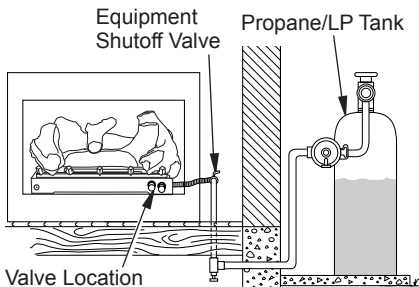
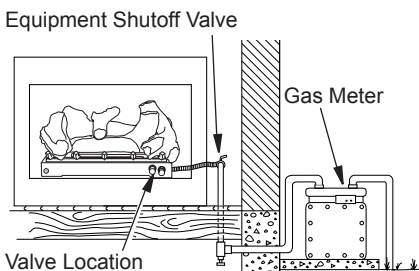

Figure 16 - Checking Gas Joints (Propane/LP Gas)
Figure 17 - Checking Gas Joints (Natural Gas)
3. Check all joints from propane/LP supply tank to equipment shutoff valve for propane/LP gas (see Figure 16) or from gas meter to equipment shutoff valve for natural gas (see Figure 17). Apply noncorrosive leak detection fluid to gas joints. Bubbles forming show a leak.
4. Check all joints from propane/LP supply tank to equipment shutoff valve for propane/LP gas (see Figure 16) or from gas meter to equipment shutoff valve for
natural gas (see Figure 17). Apply noncorrosive leak detection fluid to gas joints. Bubbles forming show a leak.